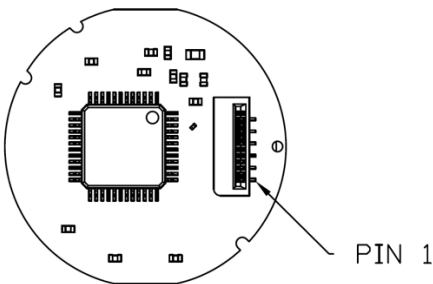

Figure 4. TM023023 - Pin #1 Placement Example
**Note:** The number one pin is on the left side of the connector (see Figure 4). Connector pins engage FFC (flat flex cable) on pin1 side. Install FFC with visible conductors on pin 1 side.